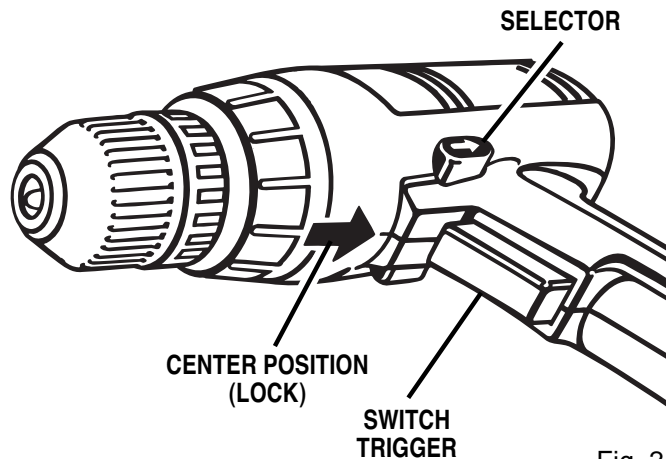

Fig. 2
See Figure 2.
- Lock switch trigger on your drill by placing the direction of rotation selector in center position. See Figure 2.
- Lock the switch trigger by placing the direction of rotation selector in center position. See Figure 2.